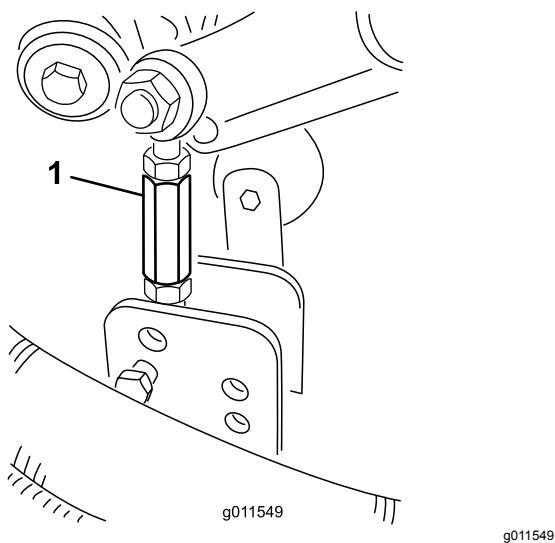

Figure 27
9. Remove the hairpin cotters and clevis pins securing the damper links to the mower-deck brackets (Figure 27).